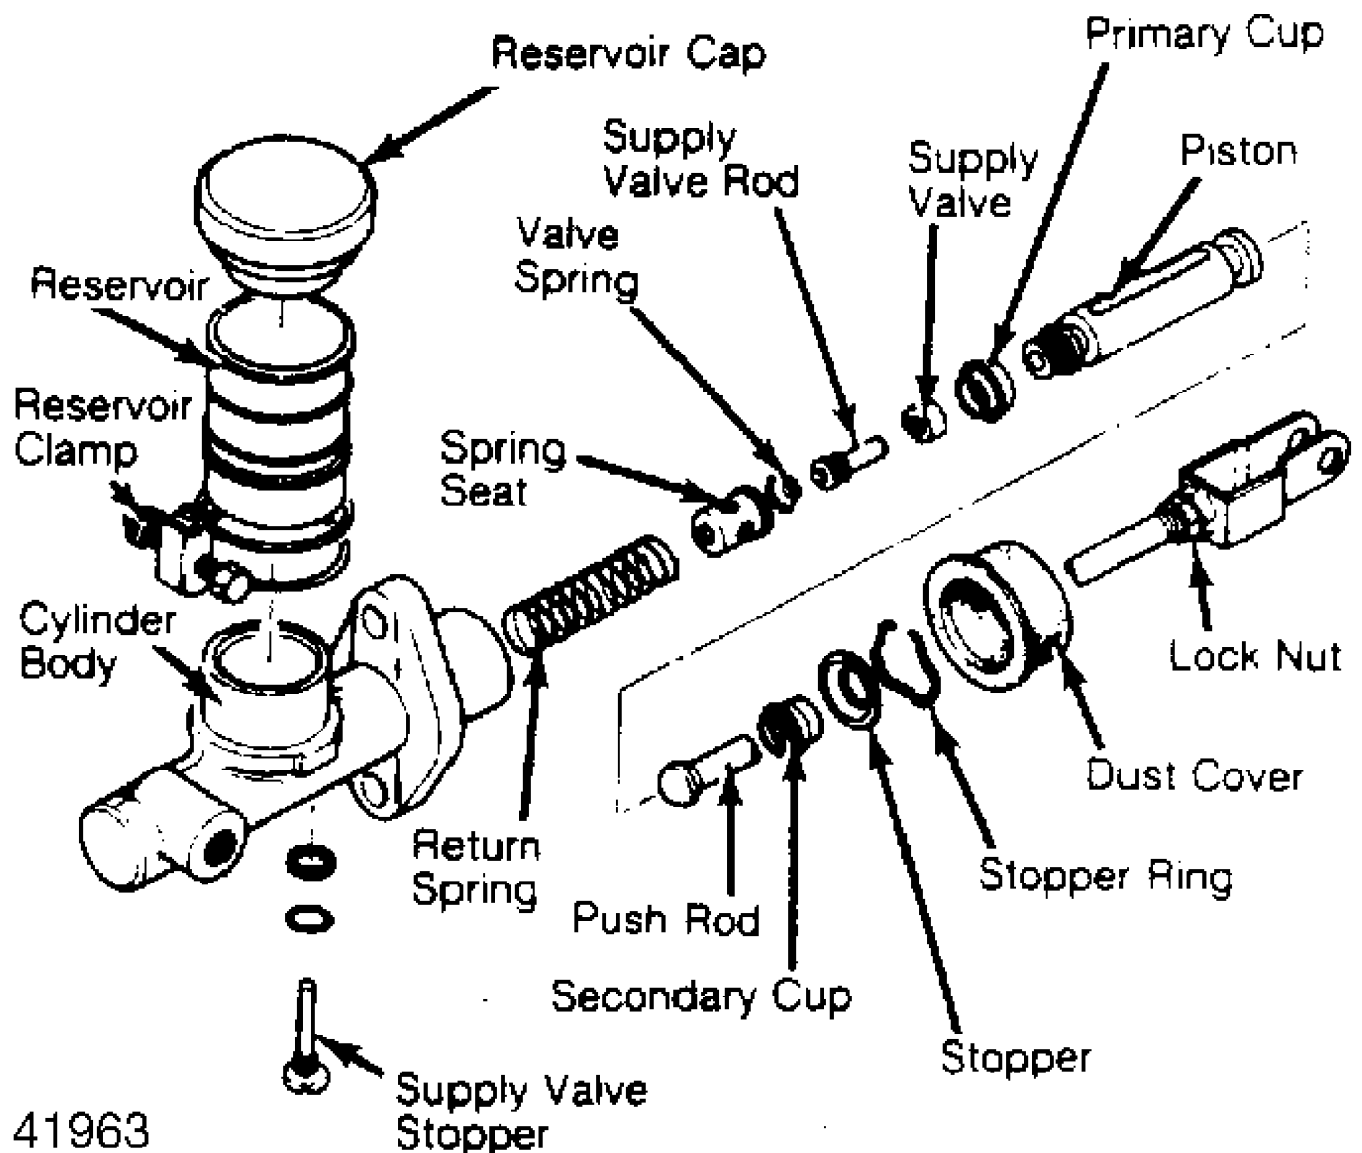

Fig. 2: Exploded View of Clutch Master Cylinder
1) Remove clutch master cylinder. Remove dust cover and stopper ring. Remove push rod and stopper. Remove supply valve stopper, piston, spring seat and return spring. See Fig. 2. Inspect for excessive wear or damage.